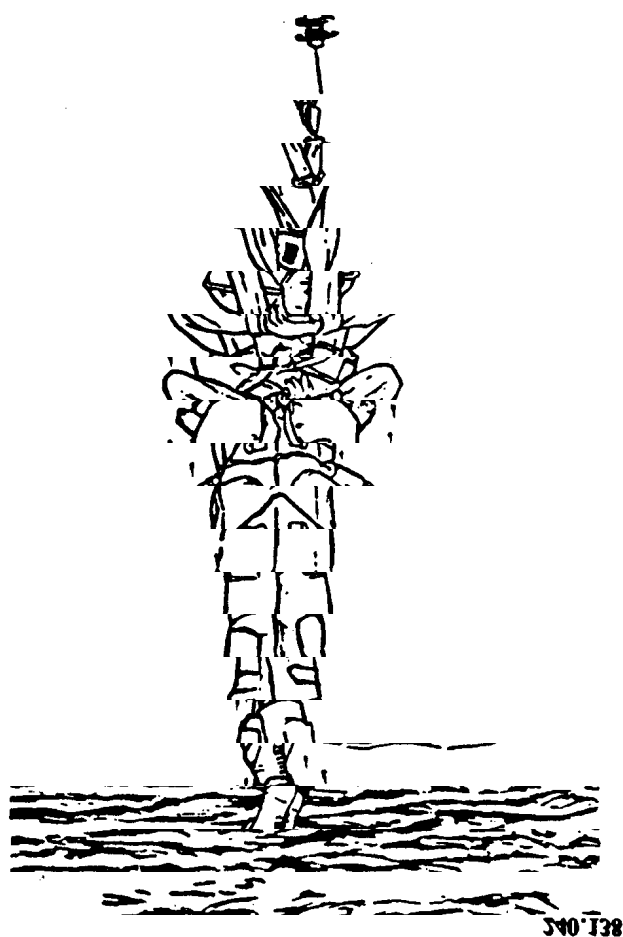

Figure 5-30.—Hoisting the survivor's sling.
6. Upon clearing the water, cross your feet as shown in figure 5-30 and remain in this position until you are inside the helicopter.